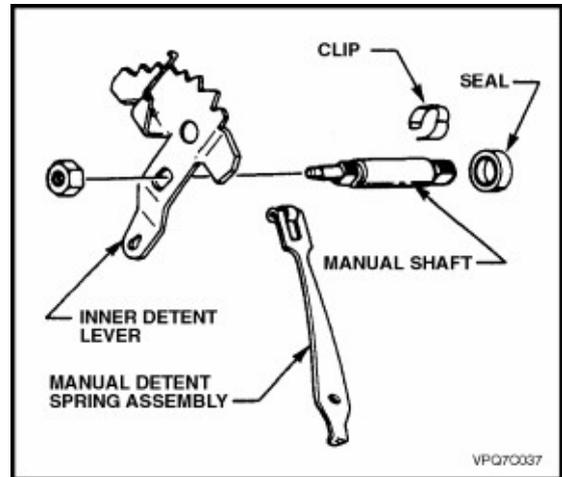

Figure 7C4-15
5. Remove nut securing inner detent lever to manual shaft. While Figure 7C4-15 shows the V8/V6 powered, floor shift version, the column shift operation is exactly similar.